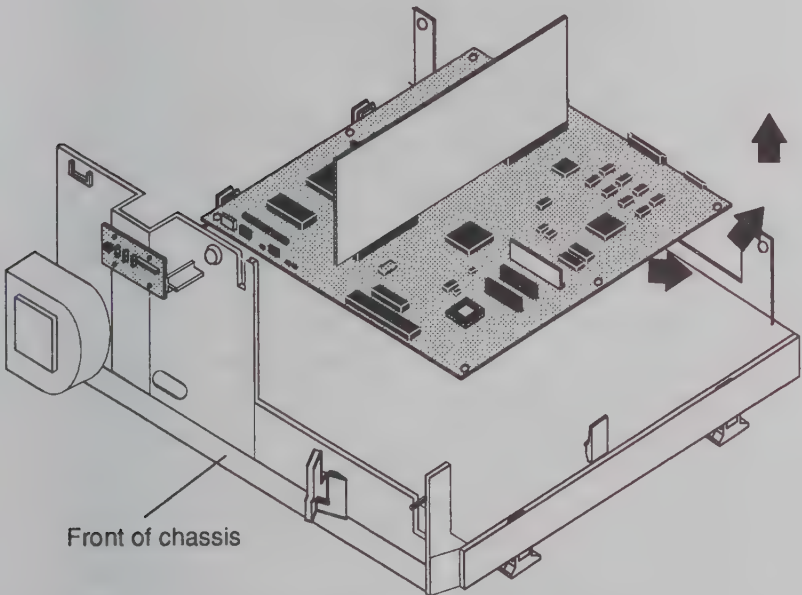

Figure 11 Releasing the System Board
6. While holding the right end of the metal bracket that is attached to the rear of the system board, raise the board slightly. Then slide the board to the right so that the left edge of the board moves under the retaining clips on that side. See Figure 11.